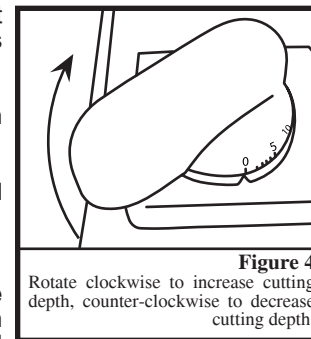

Figure 4
5. Rotate the **Thickness Adjustment Knob** to set the **Gauge Plate** to the desired cutting thickness *Figure 4*.